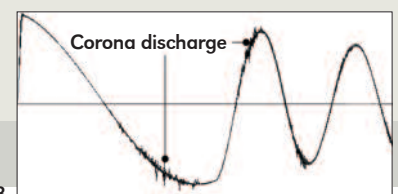

Figure 3
3. Corona/partial discharge detection (Figure 3)